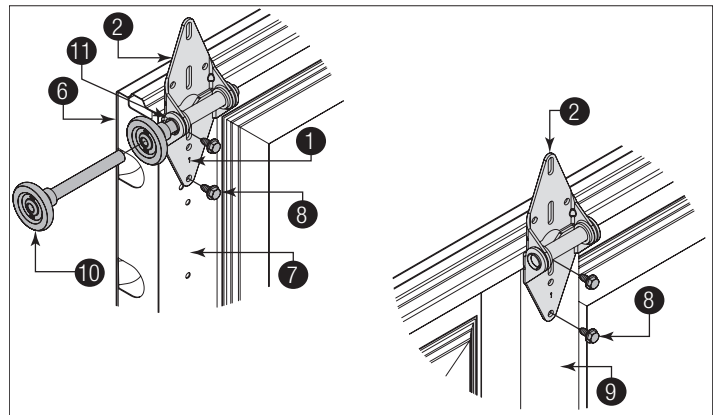
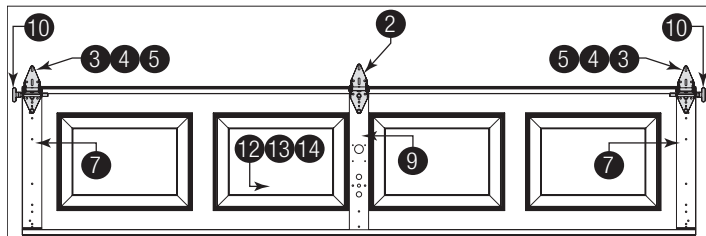

Figure 15
Figure 18
**See Figure 15 through Figure 18 for the following steps.**